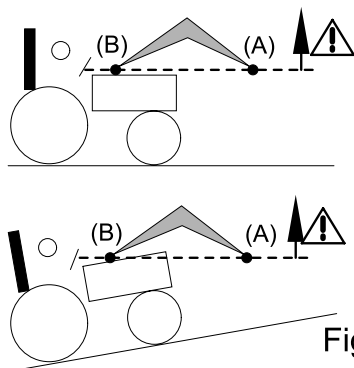

Fig. 2
- During lifting operations and when moving, ensure that you keep the load in sight, from the moment the implement pivot point (A) passes above the horizontal line of the loader pivot point (B) [see Fig. 2]. If necessary, correct the implement's position so that the load is never directed towards the driver [see Fig. 3].
⚠ DANGER: If the load is not properly secured, the operator is exposed to the risk of the load falling when the implement pivot point (A) passes above the horizontal line of the loader pivot point (B) [see Fig. 2].
⚠ DANGER: Do not crowd the loader when the implement pivot point (A) exceeds the horizontal line of the loader pivot point (B) [see Fig. 2].